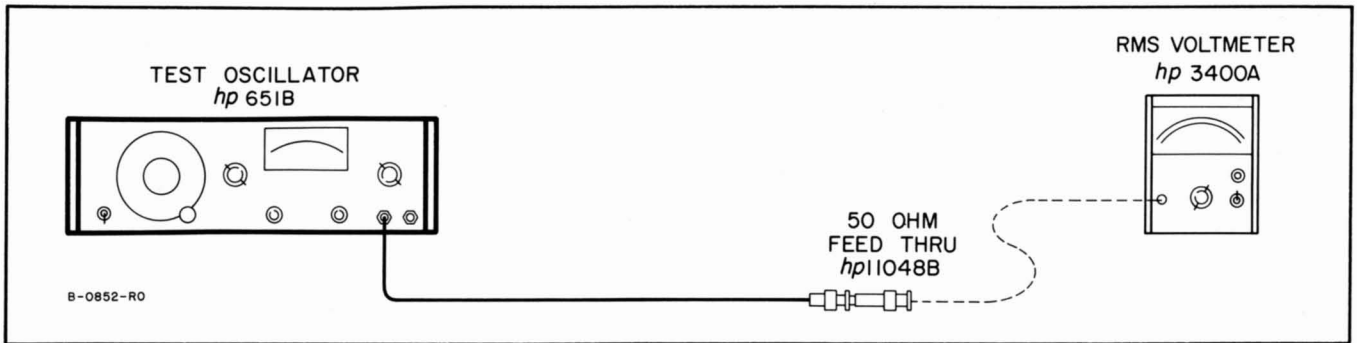

Figure 5-2. Output Monitor, Voltage Check
- a. Connect an RMS voltmeter to 50 Ω output terminal of 651B as shown in Figure 5-2. Use an RMS voltmeter with known error.
- a. Connect RMS voltmeter to 50 Ω output terminal of 651B as shown in Figure 5-2.